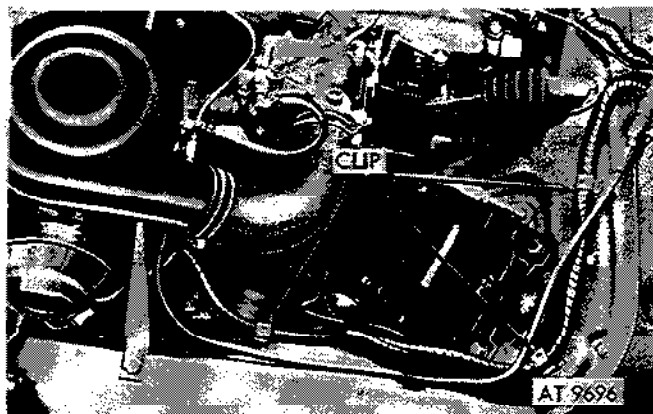

Figure 2-229. Remove cable assembly on left side of engine compartment.
(8) Remove cable assembly out of three clips on left side of engine compartment (fig. 2-229).
(9) Remove wiring harness assembly from strap at air cleaner bracket and three clips (fig. 2-229).